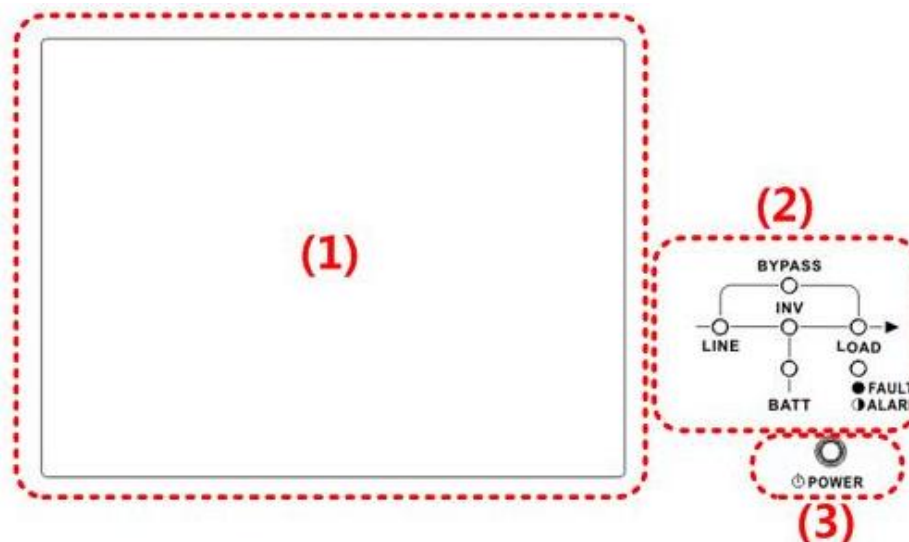

Figure 3-1 Control Panel
This control panel and display screen are located at the front panel of the UPS. This interface monitoring all measured parameters, UPS status, battery status and alarms. The control interface is divided into four sections: (1) LCD display, (2) LED indications, (3) Power Button, (4) Audible Alarm, as shown in Figure 3-1.